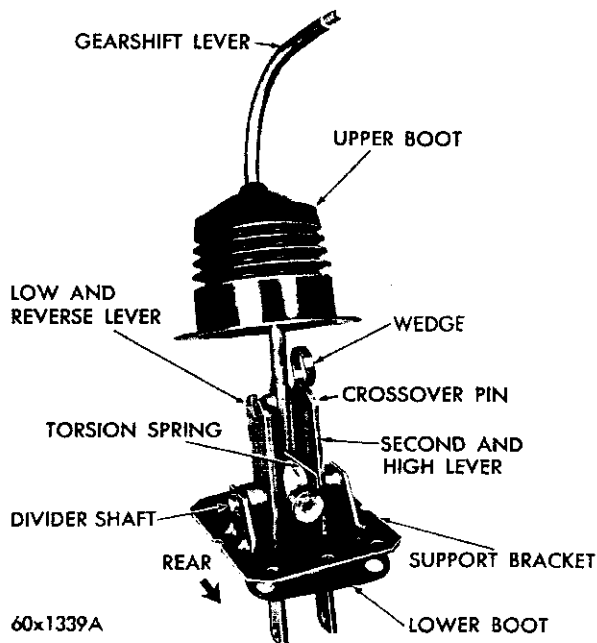
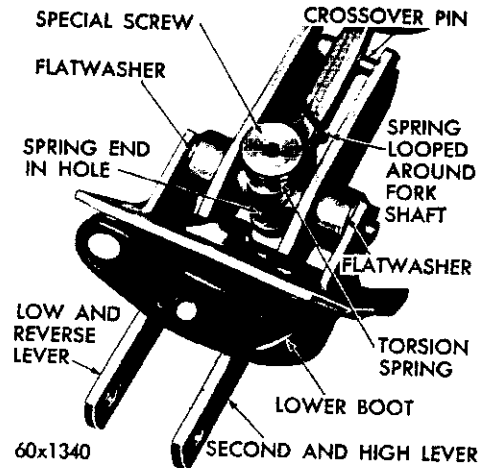

Fig. 10—Positioning Crossover Pin
Fig. 11—Lever Torsion Spring (Installed)
(5) Position the shift fork screw holes (in the divider, parallel with the center line of the divider shaft). Slide the gearshift fork and shaft down into position on the divider shaft with the gearshift knob facing to the rear and the three holes in the support plate (Fig. 10).
(6) Install the shift fork retaining screw and lockwasher (front). Do not tighten at this time.
(7) Engage the loop of the torsion spring with the gearshift fork shaft, and slide the other end into the hole at the bottom of the divider, as shown in Figure 11.
(8) Install the spring retaining screw and lockwasher, tighten both screws securely.
(9) Slide the lower boot up over the shift levers, being sure the screw holes are aligned.